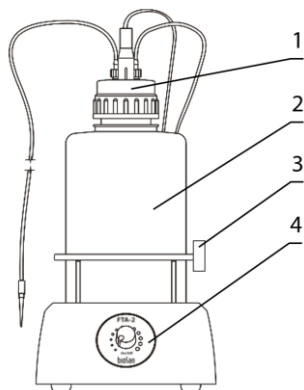

Figure 3. FTA-2i front view.
- Install the trapping flask (fig. 3/2) on the unit.
- Screw on the lid with the sensor needles and valves for tubing (fig. 3/1) to trapping flask.
- Place the microtubes for aspiration tip into the holder (fig. 3/3).
4.4.1 **Optional MA-8 aspiration tip installation.** Remove microtubes and aspiration tip from the holder (fig. 3/3). Remove the aspiration tip (fig. 5/1) from the **MA-U** adapter and connect the **MA-8** aspiration tip (fig. 8/1A).
- 5.3 (For model **FTA-2i**) Regulate the aspiration intensity with the regulator knob on the front panel of the unit (fig. 3/4). Clockwise turning direction increases power, counter clockwise – decreases. Current intensity is indicated by a light ring around the regulator knob.